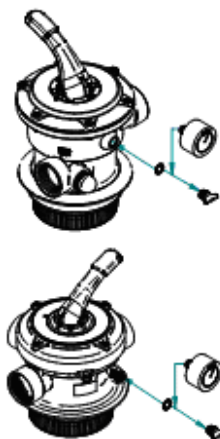

Fig. 19
7. Take off the multifunction white *multifunctional valve* cap, apply some supplied teflon around the manometer (optional for SF15, 25) thread and then screw the manometer with a key using no strength on the plastic box (Fig. 19).